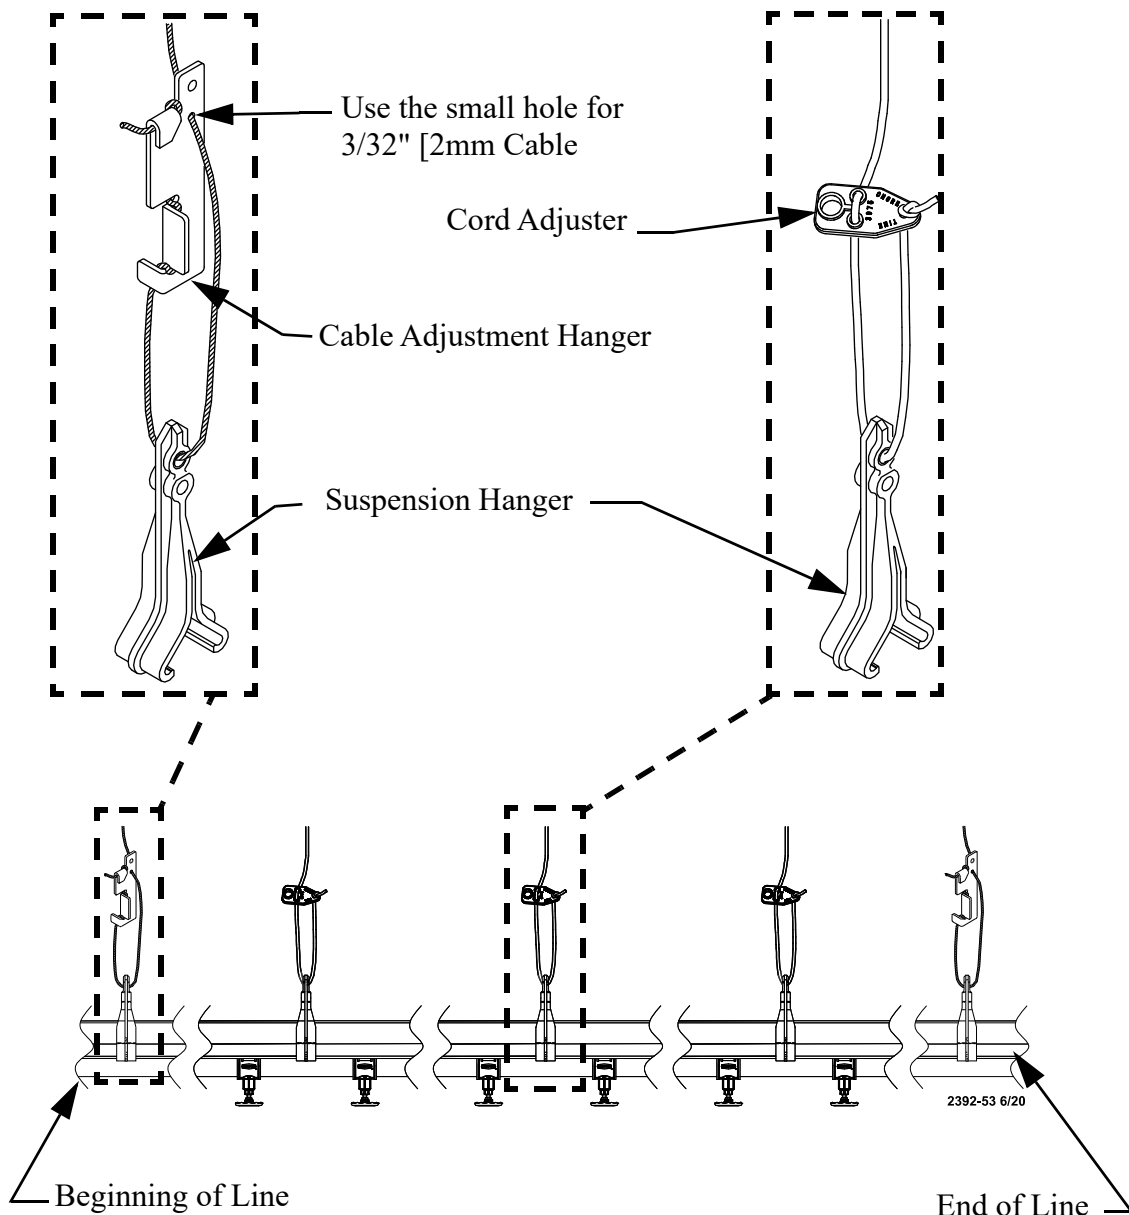

Figure 17. Suspend Water Lines
3. At the beginning and end of the system route the suspension cable through the top hole of the suspension hanger and around the Cable adjustment Hanger as shown in **Figure 17**. At all the other drops, use the Cord adjuster **as shown**.